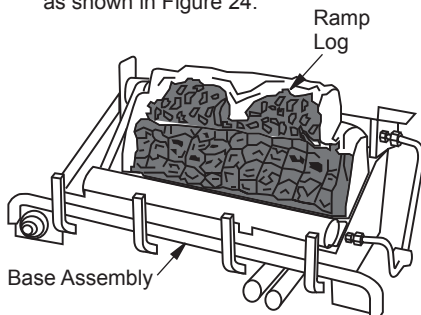

Figure 22 - Installing Log Set
- Place fiber ramp-log in center on chassis as shown in Figure 22. The fiber ramp-log can be identified by its shape and much lighter weight when compared to the other logs.